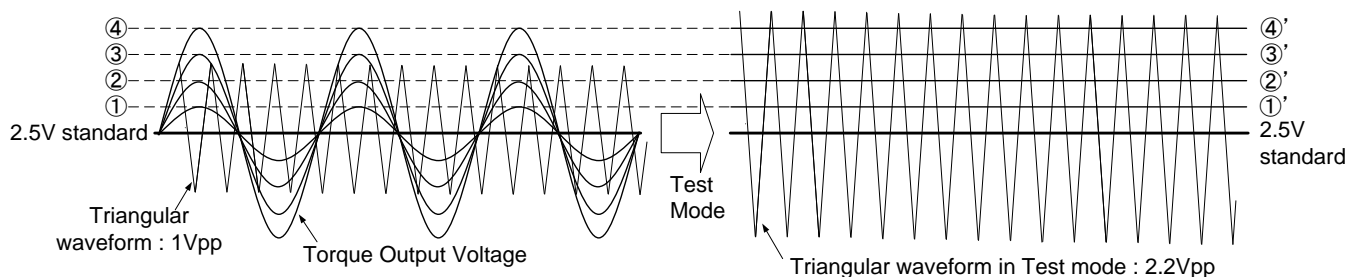

Figure -9 PREDRIVER OUTPUT DUTY Measure method
Peak voltage of torque output at VTH=1V, 2V, 2.4V and 2.9V is shown at ①~④ in Figure-9 in measurement of predriver output DUTY. For measuring predriver output DUTY, hall input is applied with DC voltage considerably to torque peak voltage of ①~④ (hall input amplitude is assumed as 100mVpp). In this condition, torque output voltage is shown in Figure-9 as ①'~④'. In addition, triangular waveform amplitude of COSC becomes 2.2Vpp. DUTY of predriver output is measured by comparison of voltage of ①'~④' and triangular waveform 2.2Vpp
p.14 11. Predriver Output DUTY Change figure name. "Figure-9(a)" to "Figure-9" Change figure name. "Figure-9 (b)" to "Figure-9"